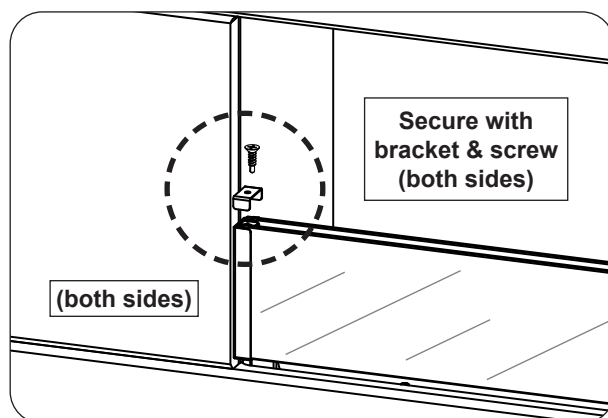

Fig. 33-4 Place top brackets and secure
4. Place a top bracket, and then secure it using a provided screw and a small-sized Phillips screwdriver. See Fig. 33-4.